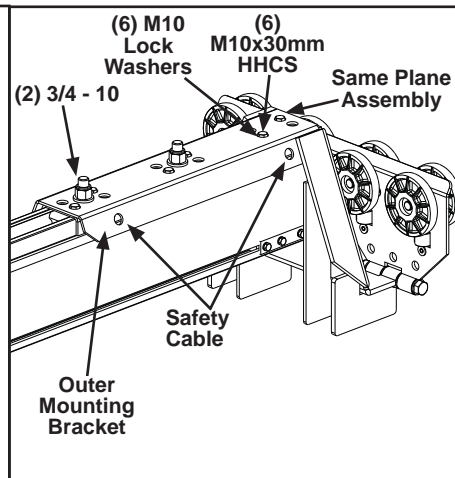

Figure 3-98
- Step 7. Secure tap plate assemblies to rail by tightening six (6) M10 x 30 mm HHCS at top of rail. Tighten bolts until lock washer is flat. Do not over tighten See Figure 3-98.
- Step 8. Install two (2) 3/4 nylock nuts onto two (2) 3/4 bolts on top of end truck body. Tighten nylock nuts until **snug**, verify bolts do not rotate by hand, do not over tighten bolts.